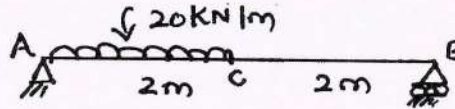

Fig Q3(b)
- b. Determine maximum slope and maximum deflection for the beam shown in Fig Q3(b) using Macaulay's method.